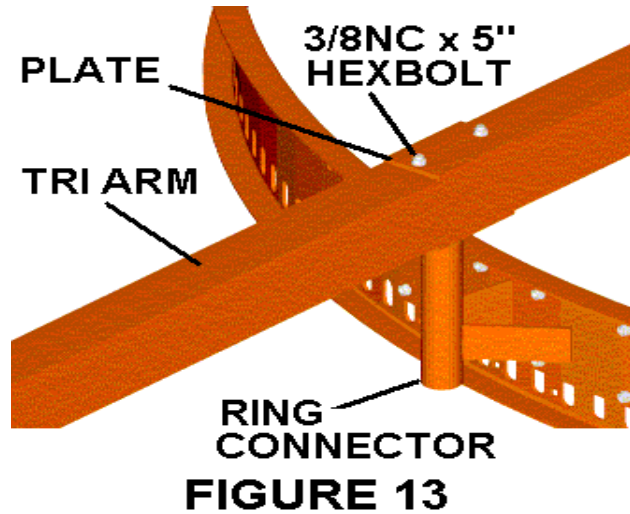

FIGURE 13
3. Lap the welded plates on the inner end of each arm over the next arm and secure with 3/8" x 5" HHCS and Whiz Nuts. Figure 13.